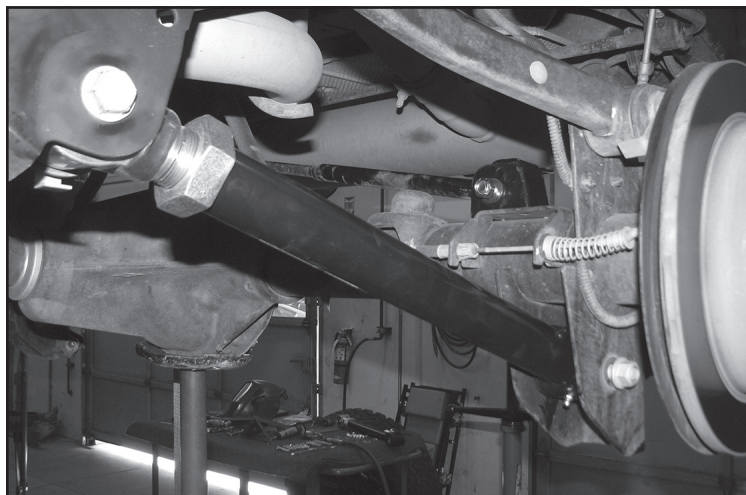

FIGURE 5 - STEP 10
10. Install the new Fabtech lower link using the supplied FT50415 (Misalignments) and factory hardware like shown below. The joint end will mount on the frame side. Torque to 160 ft-lbs. **SEE FIGURE 5** Refer to diagram at the end of instructions for FT50507BK preset measurements.